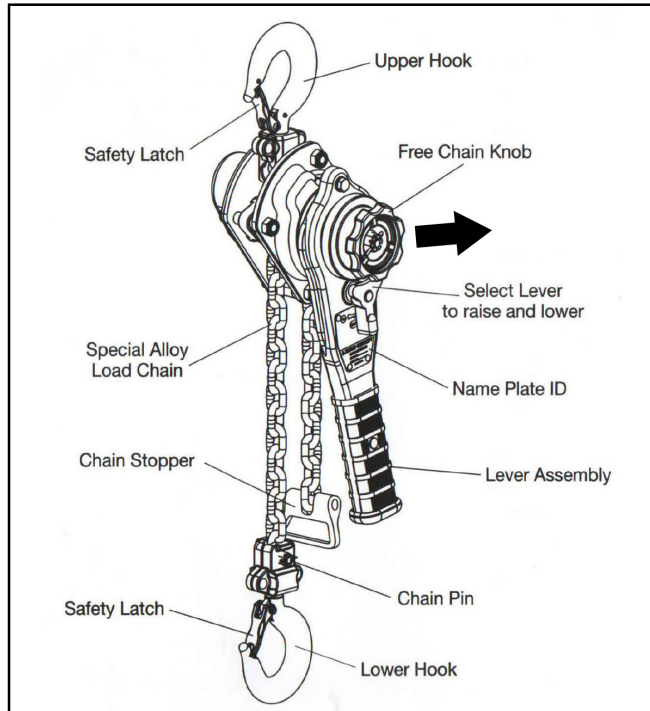

FIGURE 2
- Pull the Free Knob out. The Free Knob turns counterclockwise and 'snaps' out (Figure 2).
- » LOAD CHAIN REEVING: Make sure welds on standing links are away from the load sheave. Reinstall chain if necessary (See Figure 11). Make sure chain is not capsized, twisted or kinked (See Figure 2 & 3). Adjust as required.